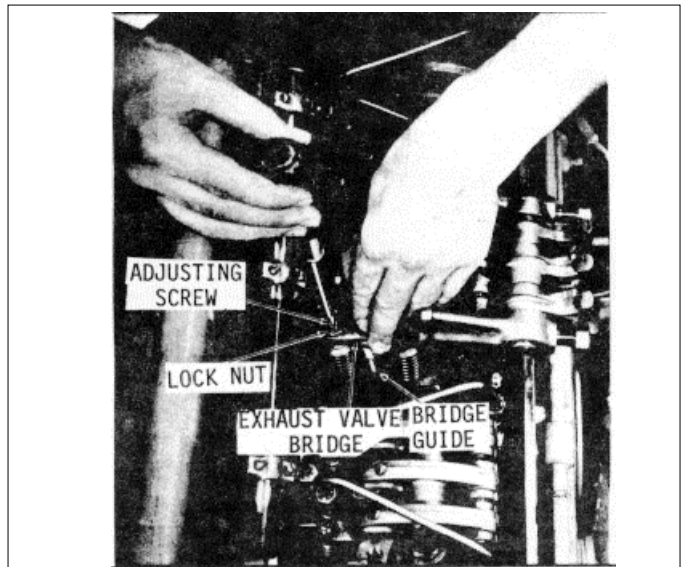

Fig.22
- (2) Install the valve bridge on the valve bridge guide.
- (3) While firmly pressing straight down on the pallet surface of the valve bridge, turn the adjusting screw clockwise until it just touches the valve stem. Then turn the screw an additional 1/8 to 1/4 turn clockwise and tighten the locknut finger tight (Fig.22).
- (4) Remove the valve bridge and place it in a vise. Use a screwdriver to hold the adjustment screw from turning and tighten the locknut to 20-25 ft-lbs (27-34 N.m) torque.
- (5) Lubricate the valve bridge guide and the valve bridge with engine oil.
- (6) Reinstall the valve bridge in its original position.
- (7) Place a .0015" feeler gauge (J 23185) under each end of the valve bridge or use a narrow strip cut from .0015" feeler stock to fit in the bridge locating groove over the inner exhaust valve. While pressing down on the pallet surface of the valve bridge, both feeler gauges must be tight. If both of the feeler gauges are not tight, readjust the adjusting screw as outlined in Steps 3 and 4.
- (8) Remove the valve bridge and reinstall it in its original position.
- (9) Adjust the remaining valve bridges in the same manner.
- (10) Swing the rocker arm assembly into position, making sure the valve bridges are properly positioned on the rear valve stems. This precaution is necessary to prevent valve damage due to mislocated valve bridges. Tighten the rocker arm shaft bracket bolts to the torque specified in SM6-5-70.0.